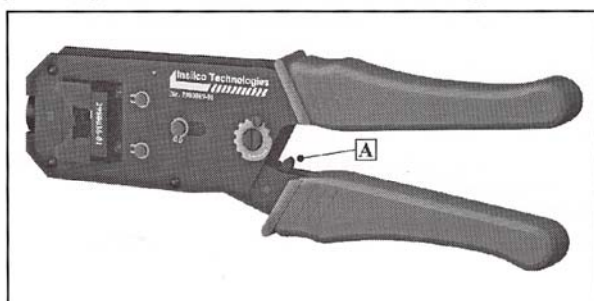
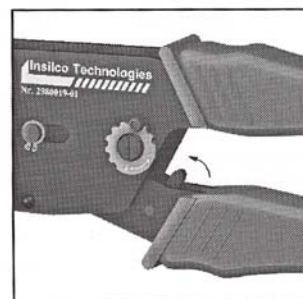

Fig. 4.
Fig. 5.
- On the smaller handle locate the lever A (Fig.4.) for releasing the tool actuating mechanism. Pushing the release lever in the direction as shown on Fig.5. will result in opening of the handles and the crimping dies. Thereafter, any existing obstruction that caused the blocking of the tool can be removed.